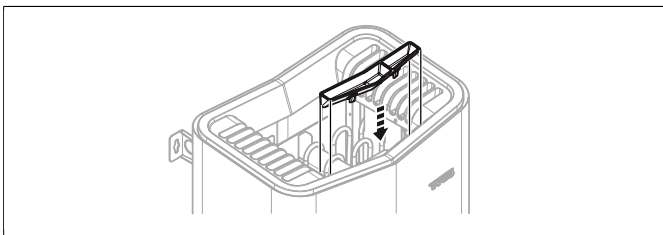

Figure 11: Installing the fragrance holder/air humidifier
10. Attach the herb bowl/air humidifier (see **Figure 11**, Page 5).